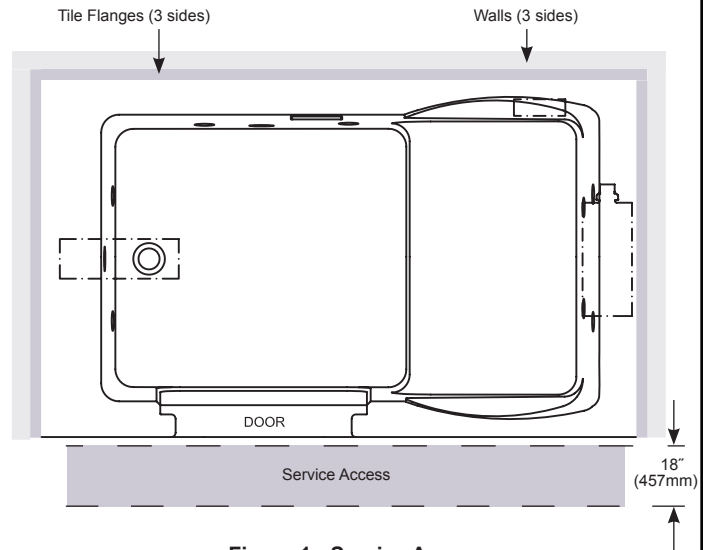

Figure 1 - Service Access
- Per code, access must be provided to service equipment. It is the installer's responsibility to provide sufficient service access. The recommended minimum 18" (457mm) allowable for service to the bathtub are shown in the Service Access illustration (Figure 1).